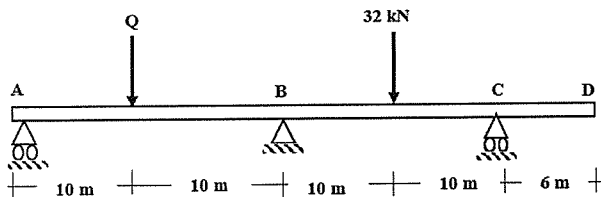

Figure 3
3. Analyze the beam in **Figure 3** by Force Method [EI=Constant] and determine the reactions. Consider the vertical reaction at C as the redundant. Also note that $Q=64$ kN for even rolls and $Q=96$ kN for odd rolls. [14]